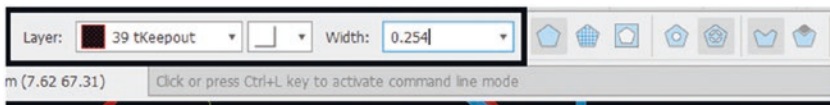

Figure 7-17. Select the Polygon function and use these perimeters
1. Select the “Polygon” function, select the tKeepout layer, select the right-angle trace, and select a 0.254mm as the trace width. See Figure 7-17.